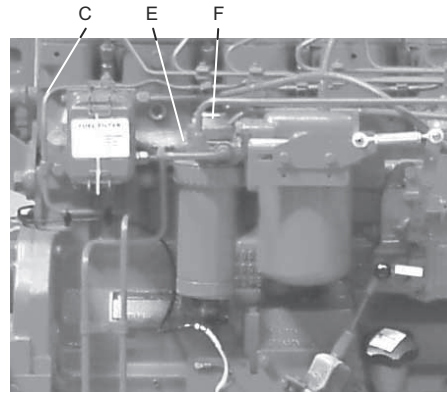

Fig. 54 Venting of fuel system through the fuel filter, JW6H
1. Loosen the vent screw (fig. 54, pos. E) of the filter holder.
2. Operate the manual venting system (fig. 54, pos. F) until the diesel fuel running out of the vent port does not contain air bubbles. Collect the fuel in a suitable container and dispose of it in an environmentally sound way.
1. Loosen the vent port (fig. 54, pos. C) of the fuel filter holder.